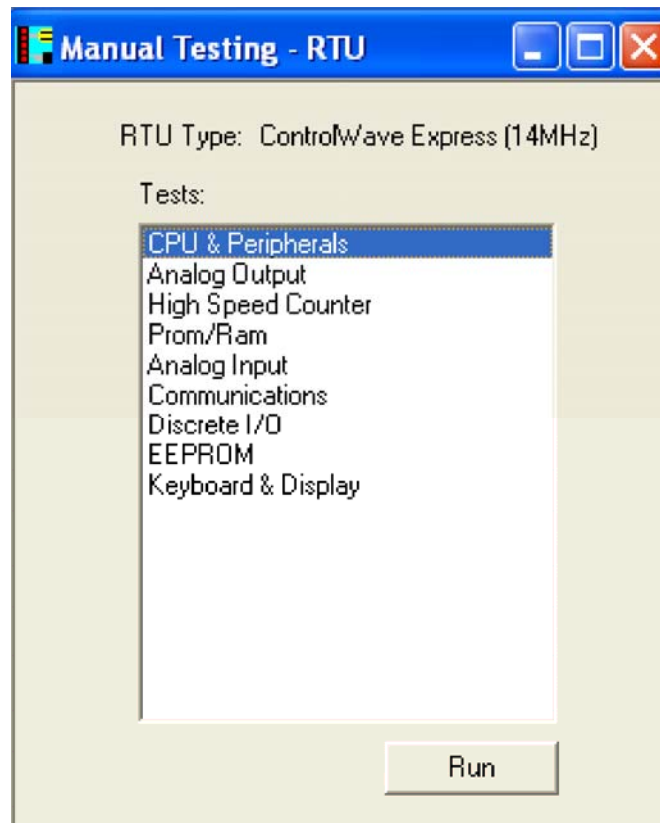

Figure 5-5. WINDIAG Main Diagnostics Menu
2. Select **Start >Programs > OpenBSI Tools >Common Tools >Diagnostics**. The Main Diagnostics menu (*Figure 5-5*) opens.
WINDIAG's Main Diagnostics Menu (see *Figure 5-5*) provides the following diagnostic selections: